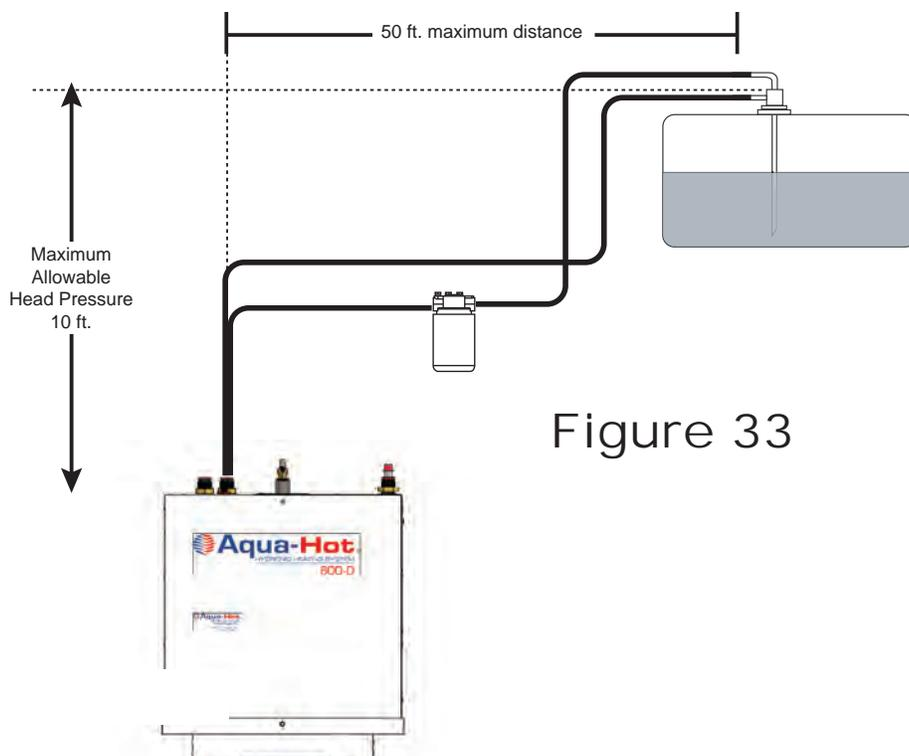

Figure 33
Fuel head pressure should not exceed 10 feet. Reference Figure 33.
7. Cut the fuel line at the fuel filter mounting location and connect the fuel lines as illustrated in Figures 33 and 34.